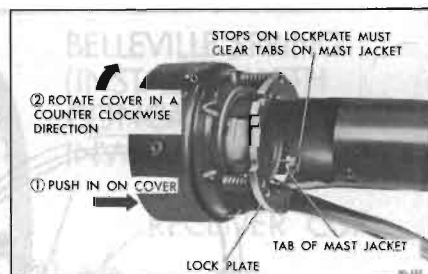

Figure 90-90—Releasing Lockplate from Mast Jacket
6. Remove the switch assembly, housing assembly, cover, springs, and lockplate as a unit by loosening (but not removing) the three screws in cover. Push in on cover and then rotate cover in a counterclockwise direction (see Figure 90-90). Lift off unit as an assembly (see Figure 90-91).